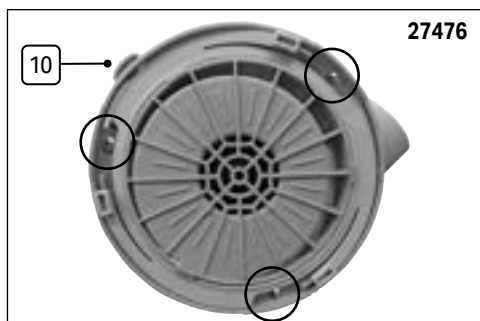

Fig. 7
8.2 Clearing Impeller Obstructions (Fig.7)